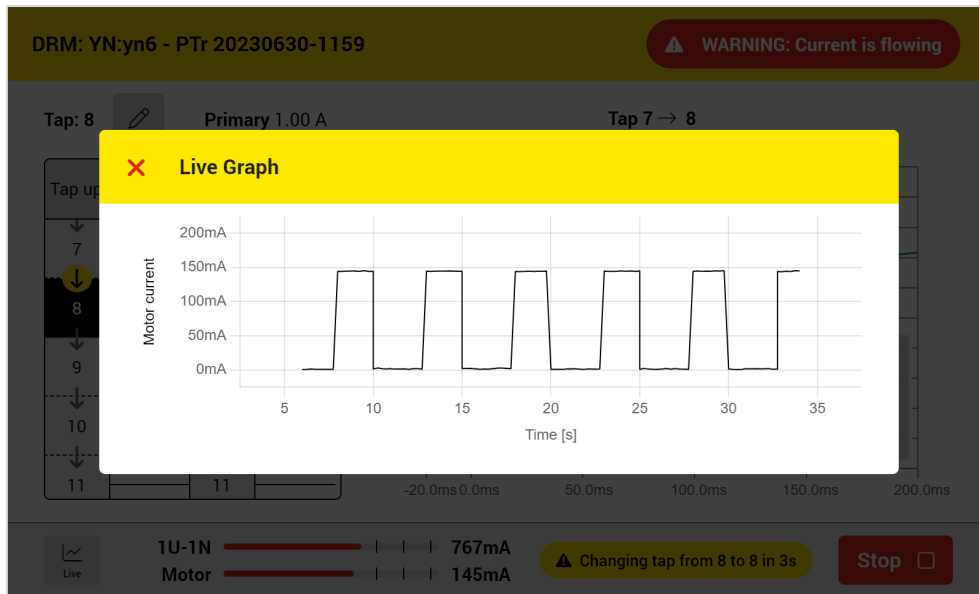

Figure 92: Tap changer motor live graph
- 3 To see the tap changer motor live current curve over time (Figure 92)